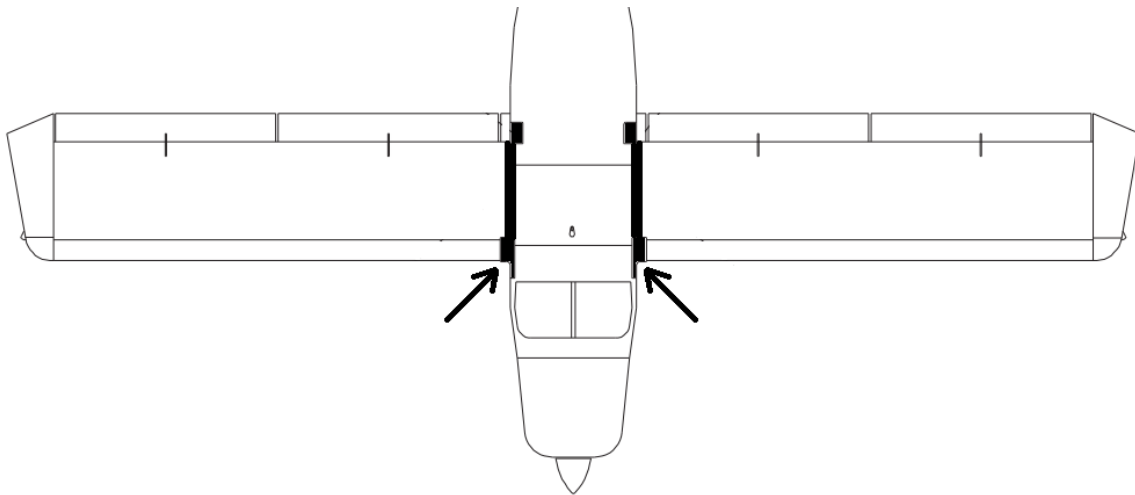

Figure 3 – Upper Wing to Fuselage Fairings
9. Remove the upper wing to fuselage Fairings as shown in Figure 3.